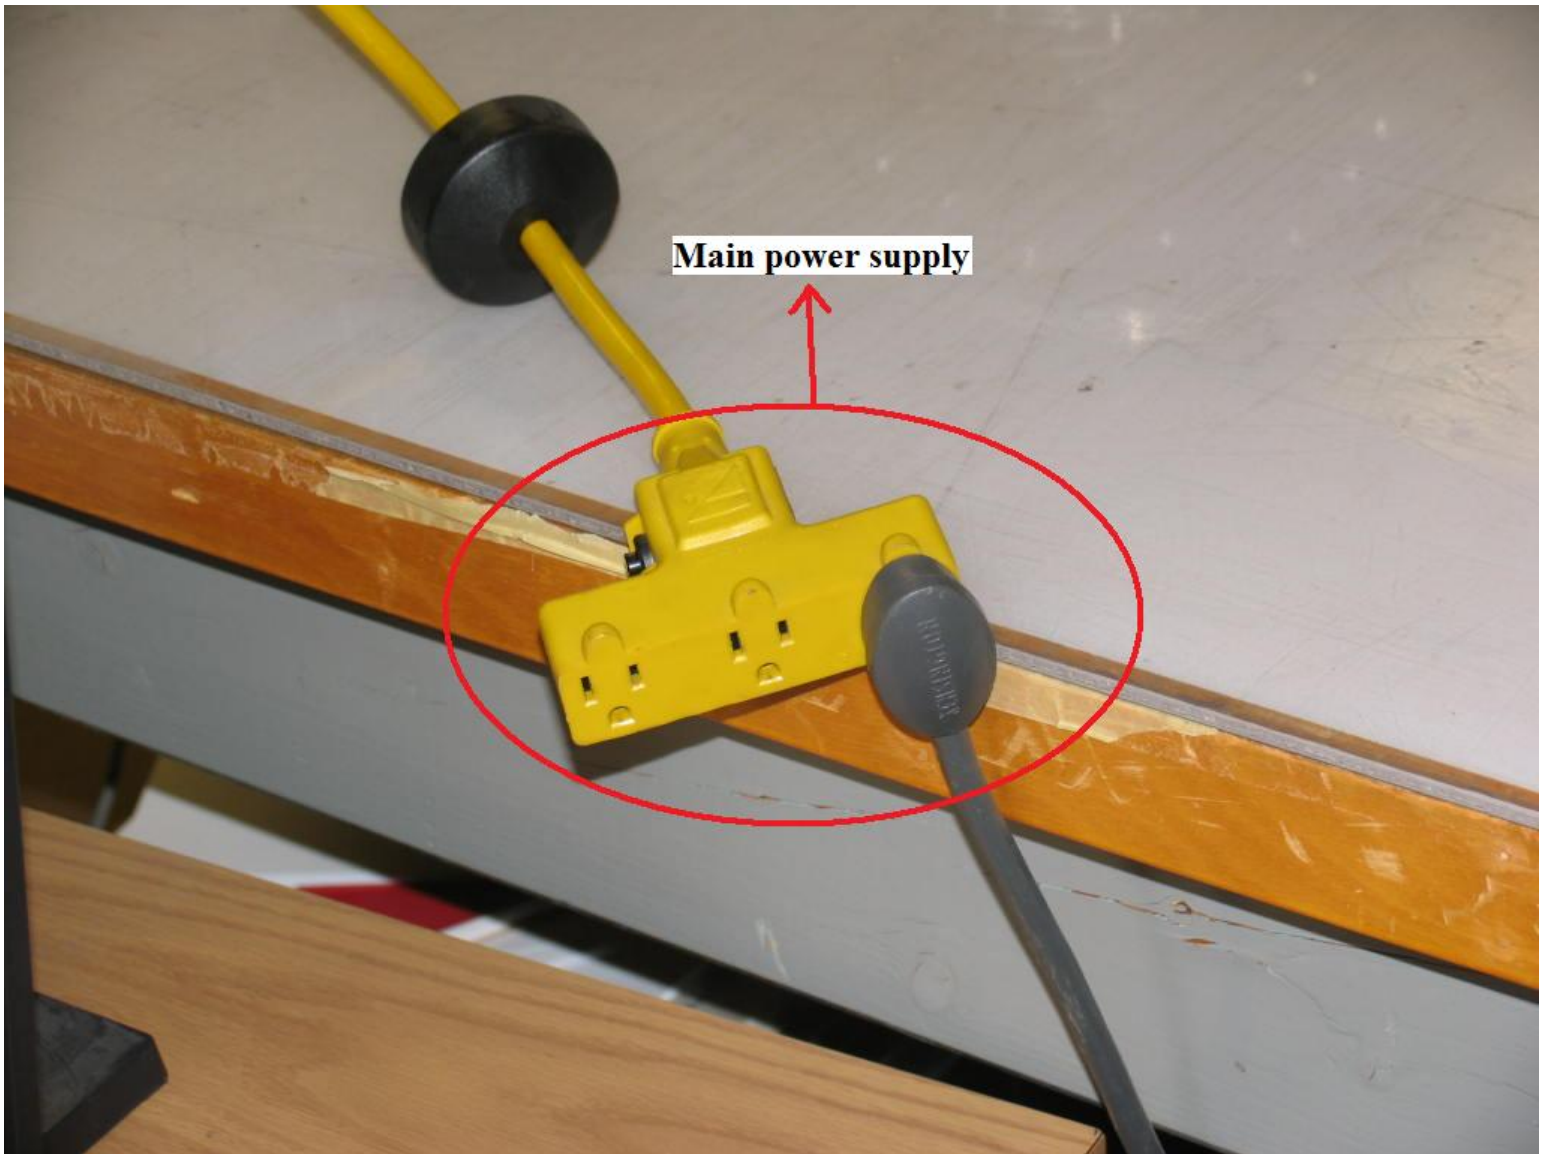

Figure 9: Main power supply to controller and computer
The SCORBOT - ER V Plus is electrically powered although it does not pose any electrical threat to the user, if handled carefully. The computer and controller are connected to the main power supply as shown in Figure 9. Always check the apparatus for bare, frayed or cut electrical cables before operating it. Please see Figure 9 to see the main electrical outlet powering this apparatus.
2. Ensure that the SCORBOT - ER V Plus connection to main power supply is secure and tight (see Figure 9).